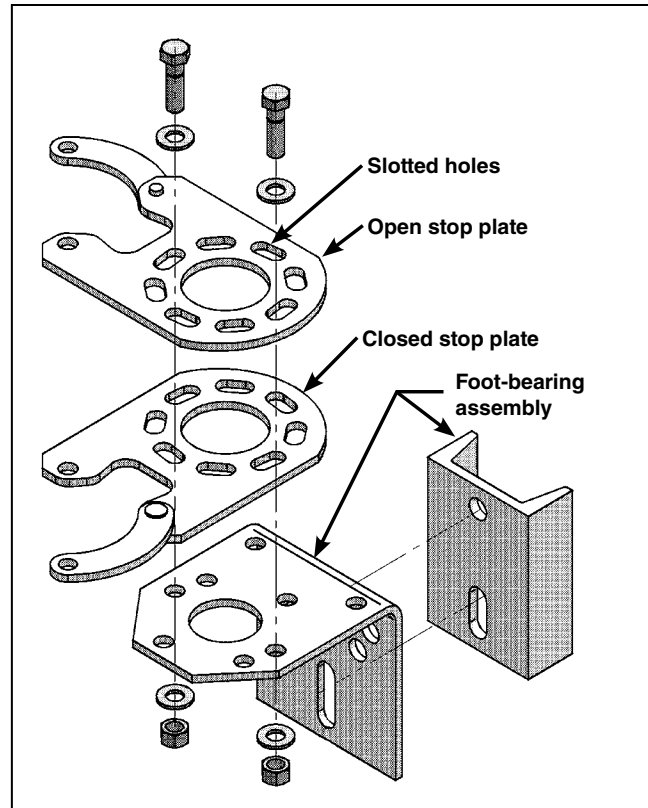

Figure 29. Exploded view of stop plates and foot-bearing assembly.
STEP 28. The stop plate holes are slotted to allow room for adjustment. Loosen the bolts that secure the adjustable stop plates to the foot-bearing support plate. See Figure 29 on page 20. Place the switch in the fully **Open** position and adjust the open-position stop plate so the handle, when lowered, fits into the open-position slot. Mark the location of the open-position stop plate on the support plate.
- (a) Loosen the hardware securing the closed stop plate. See Figure 29.